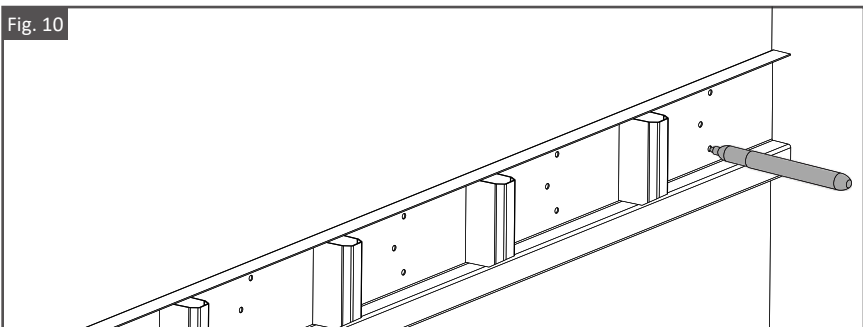

Fig. 11
- Position S-Ledger over pre-drilled holes, then using 3/8" [10mm] bolt and washers, fasten S-Ledger to structure. As shown in Fig. 11. **All pre-drilled holes should be used when securing the S-Ledger to the structure.**